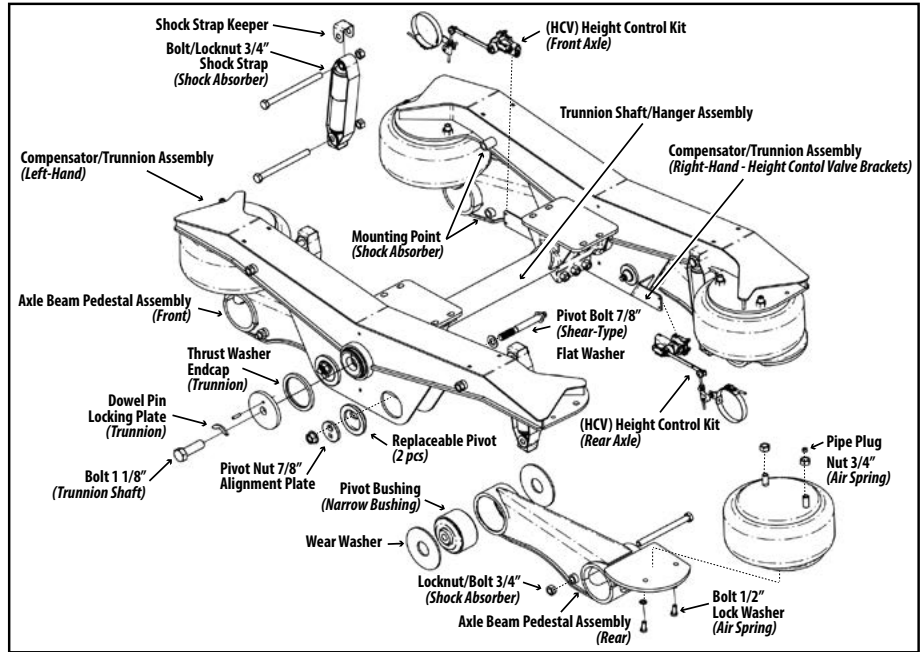

Figure 16.
- Loosen the pivot nut (Figure 16).